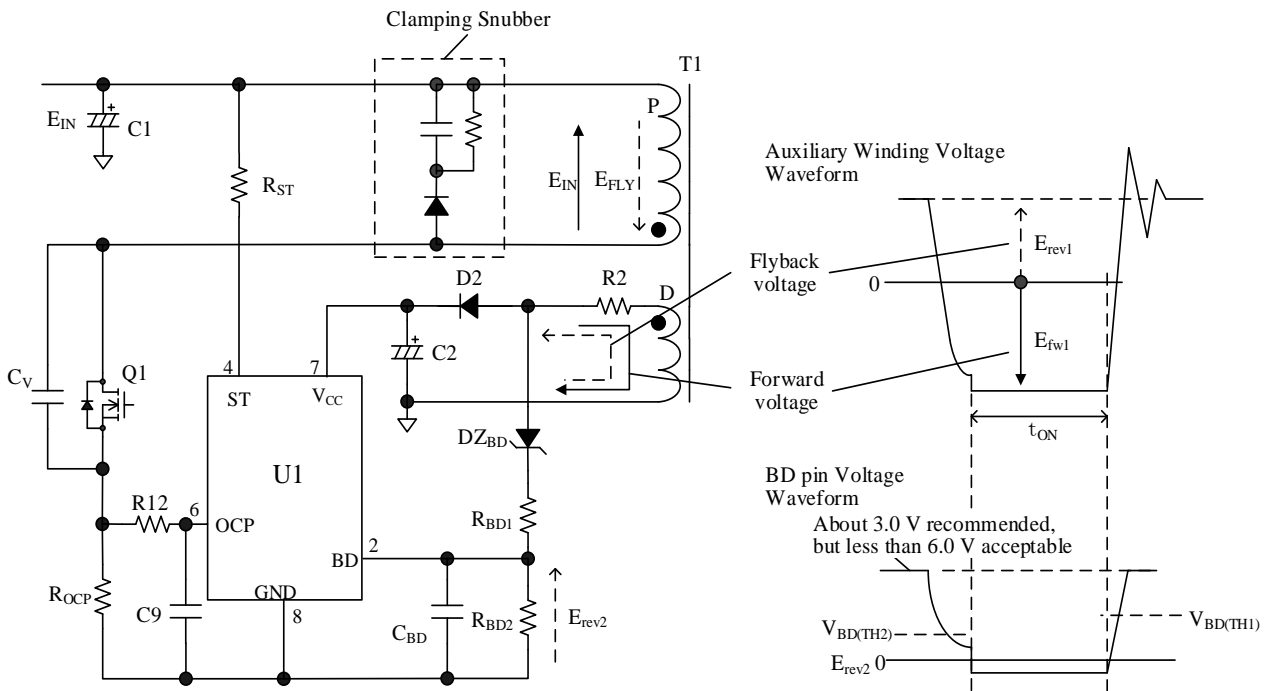

Figure 8-13. BD Pin Peripheral Circuit (Left) and Auxiliary Winding Voltage (Right)
Figure 8-13 shows the voltage waveform of the BD pin peripheral circuit and auxiliary winding, D.
The components DZ_{BD} , R_{BD1} , R_{BD2} , and C_{BD} , are connected to the BD pin peripheral circuit as shown in Figure 8-13, with values that are determined with the above-mentioned steps 1) and 2).
- The clamping snubber circuit (see Figure 8-13) must be adjusted properly.